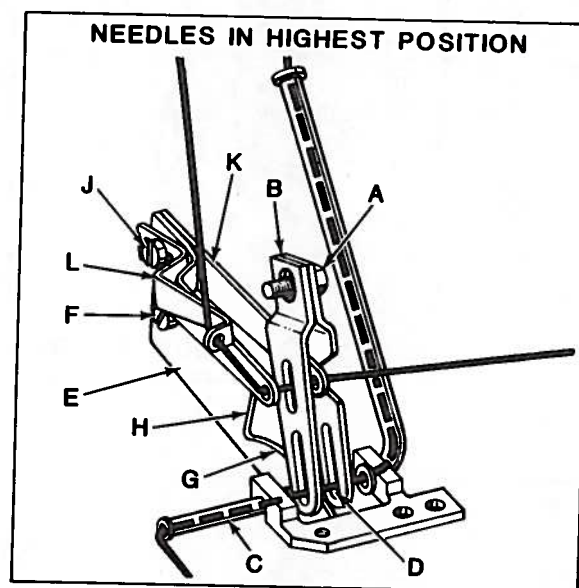

Fig. 30
With needles at highest position, loosen screw (A, Fig. 30) and center lower slots of the looper thread take-up (B) front to back to thread tube (C), then tighten screw (A). Threading wire No. 39899 A should pass freely through thread tube (C) and the lower slots of looper thread take-up - Ref. point (D).
With needles in highest position, loosen screw (J, Fig. 30) and set upper looper take-up eyelet (K) in a horizontal position with its mounting slot centered (front to back); also set auxiliary thread guide (L) slightly above a horizontal position. At this time, the upper looper thread should be taut through the eyelet holes and should barely contact the rear portion of the slot in left side of looper thread take-up (B). Reposition eyelet (K) if necessary, (slightly upward or downward) to center thread in the slot of take-up (B), then tighten screw (J).